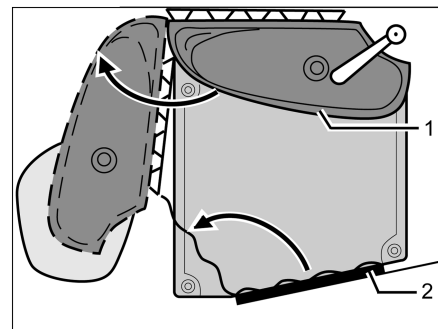

Fig. 359 Vario toilet
- Turn the wash basin and the rear wall (Fig. 359,1) in the direction indicated.
- Enter the toilet compartment and close the toilet door (Fig. 359,2) from the inside and lock.